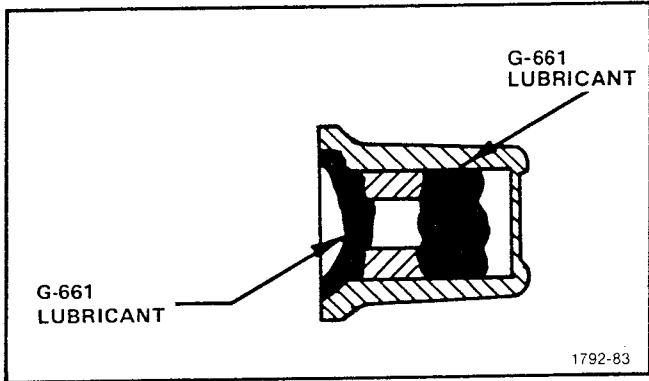

Fig. 5-34. FOCUS and INTENSITY Knobs
Knob (2 ea), MPL 2-1. See Figure 5-34.
- a. Apply G-661 lubricant to knobs per Figure 5-34.